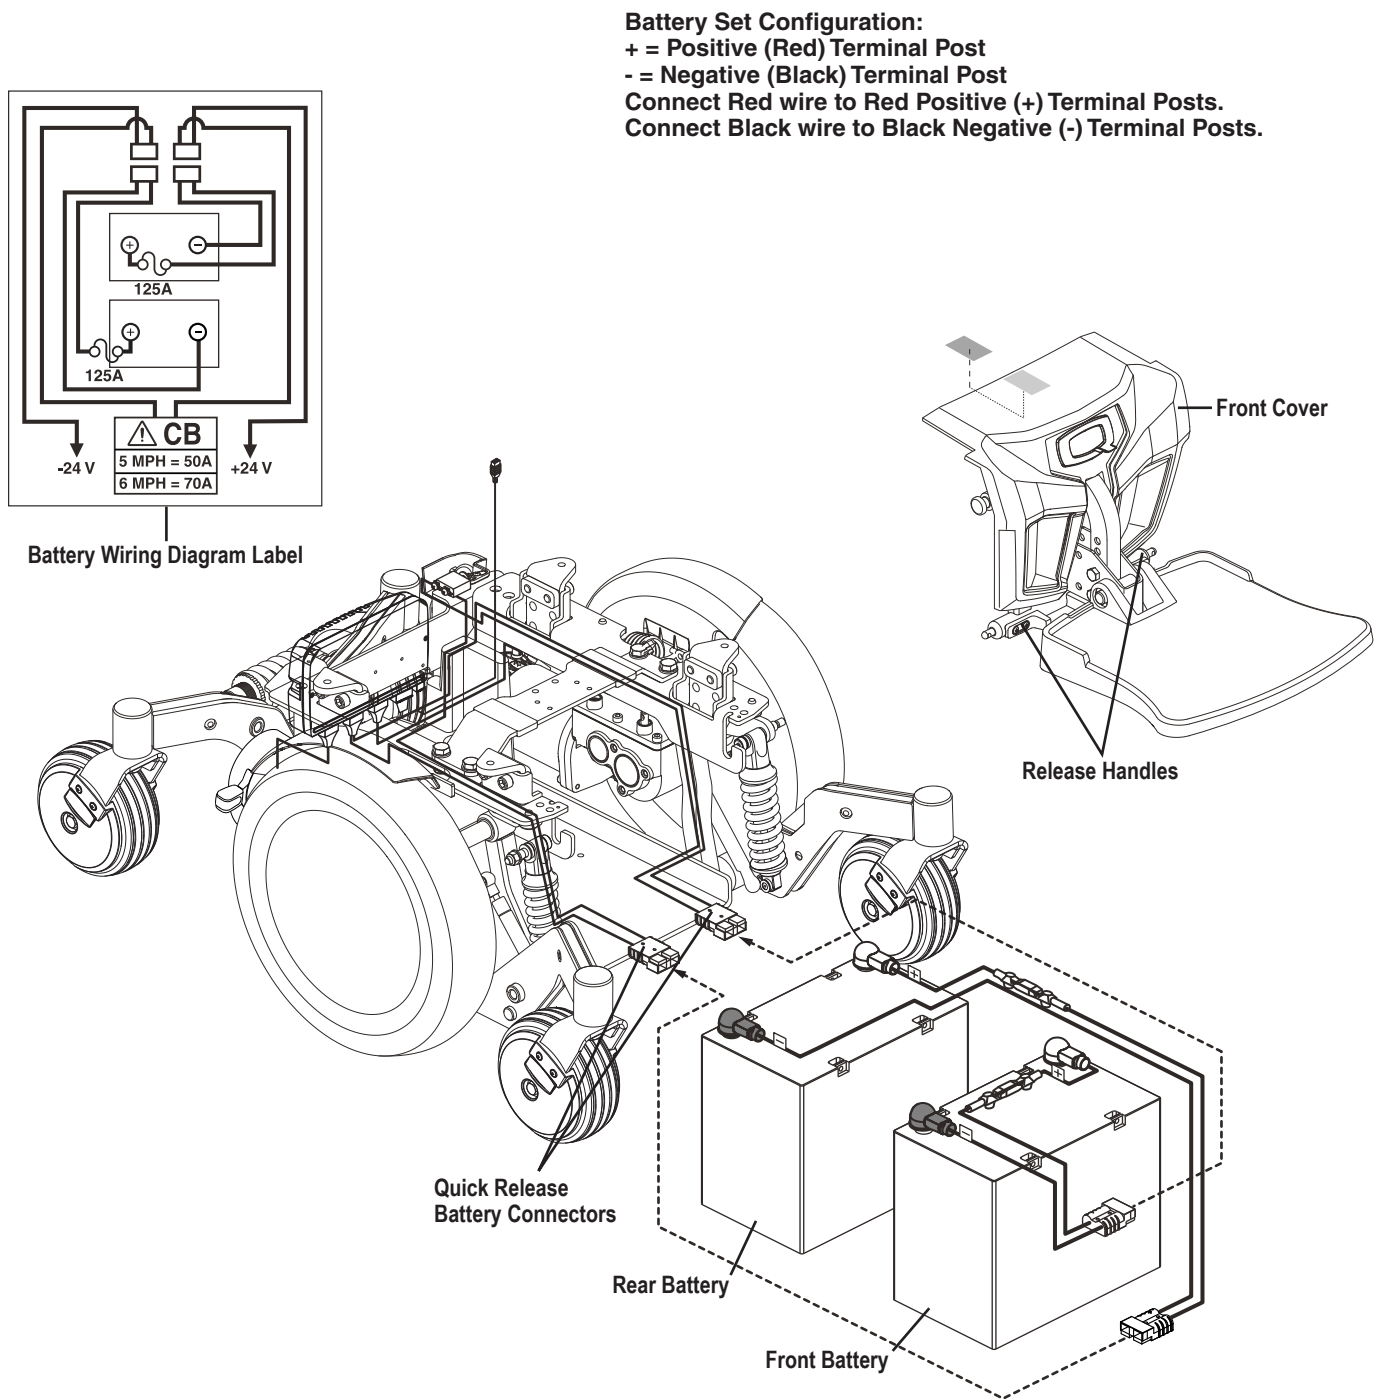

Figure 24. Battery Installation
3. Remove the front cover by squeezing the release handles (**see figure 24**) and lifting the front cover up and away from the power base.
4. Disconnect the quick release battery connectors. **See figure 24.**
7. Connect the battery harness to the new front battery according to the battery wiring diagram. **See figure 24.**
8. Connect the battery harness to the new rear battery according to the battery wiring diagram. **See figure 24.**